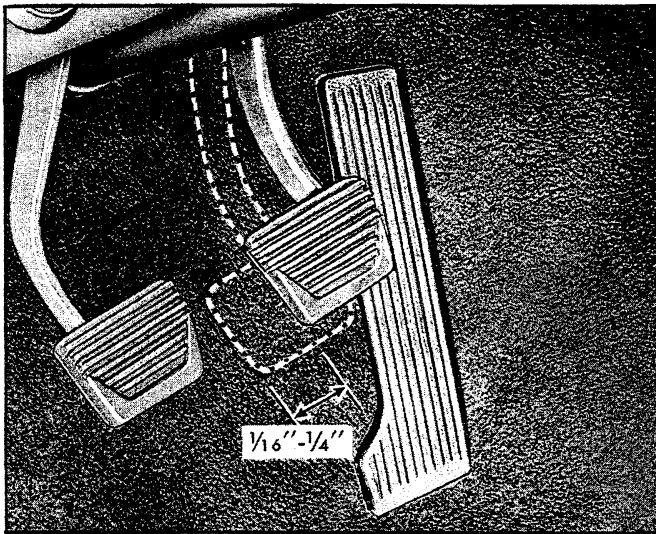

Fig. 9—Brake Pedal Free Movement
2. Turn push rod as required to provide correct adjustment. Movement of pedal pad before push rod contacts main cylinder pistons must be $1/16$ " to $1/4$ " (fig. 9).